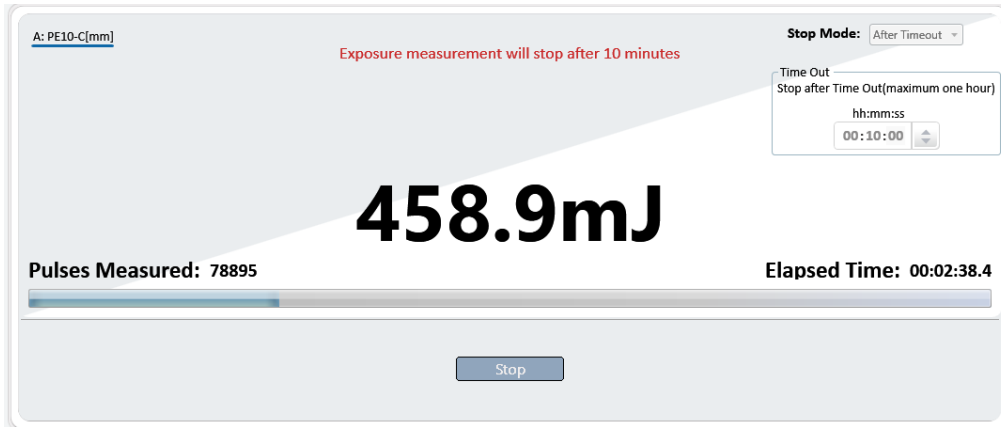

Figure 7-7 Exposure measurement in progress.
- Refer to Figure 7-7, page 70.